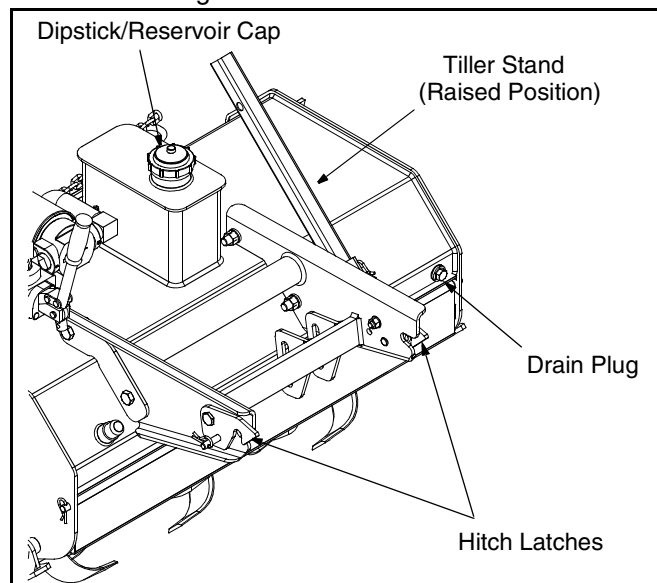

Figure 18
- Locate the drain plug on the front left side of the tiller. See Figure 18.